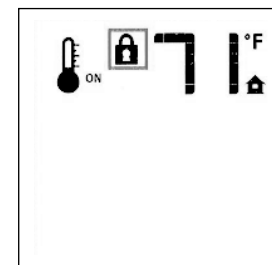

Figure 16.22. Lock ON.
- To activate the Lock, press the Mode key and UP Key at the same time. Fig. 16.22.